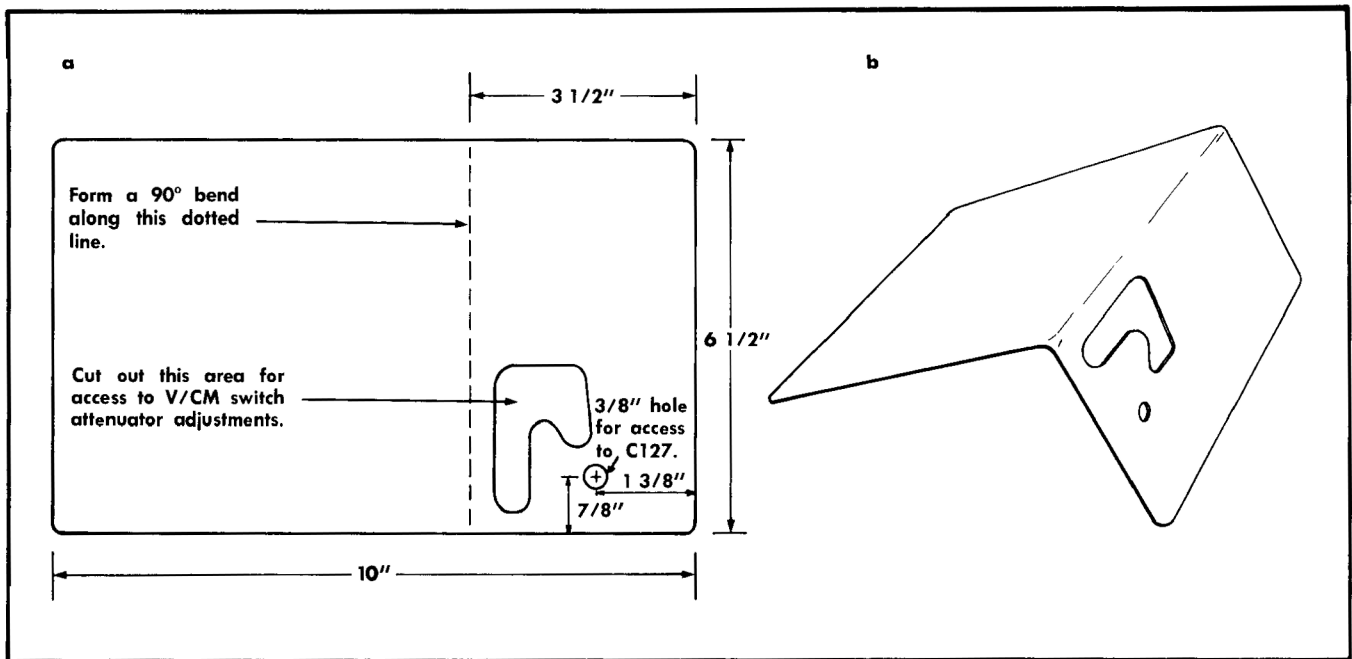

Fig. 5-1. Constructing the tuning shield. (a) shows layout and (b) shows completed shield.
- (8) Connector Adapter, with BNC-plug and UHF-jack connector fittings, fits BNC-jack and UHF-plug connectors, will accept a banana plug, Tektronix Part No. 103-032.
- (9) Tuning shield (applies only to instruments below SN 3000). This is an optional item to construct to decrease calibration time if there are several units to calibrate. The shield is used when performing step 25 in the calibration procedure. Suggested layout for constructing the shield is shown in Fig. 5-1. (If you are calibrating a single unit, the first portion of step 25 can be performed without using the shield. Then the last portion of the step can be performed as described in the procedure.)
(10) Miscellaneous